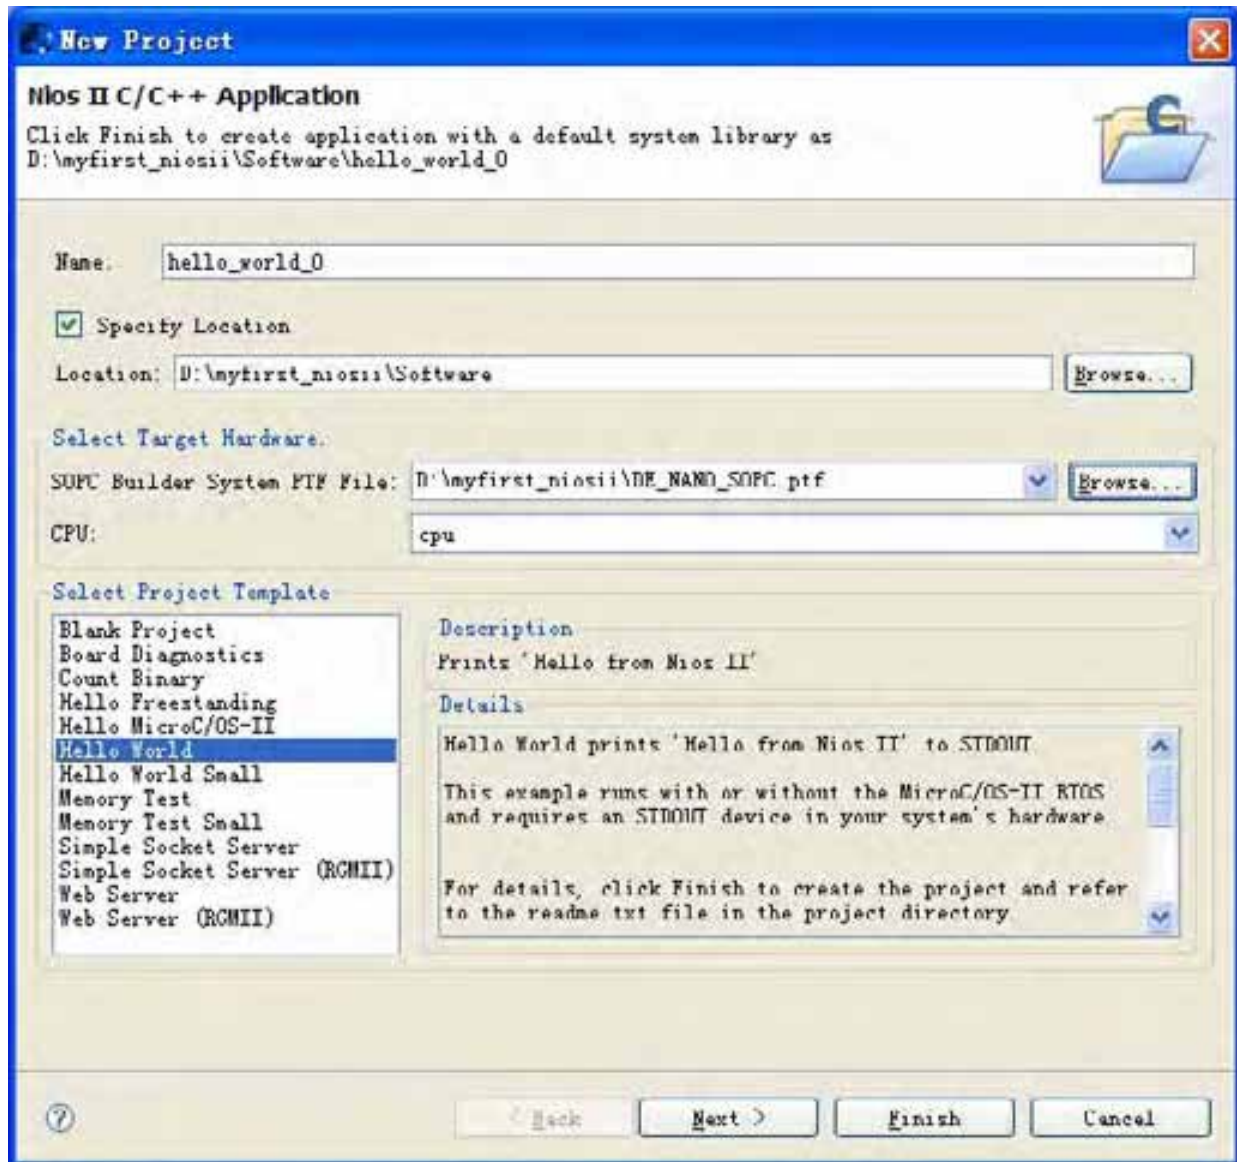

Figure 7-55 Nios II IDE New Project Wizard
- c. Select the target hardware system's PTF file that is located in the previously created hardware project directory, as shown in Figure 7-55.